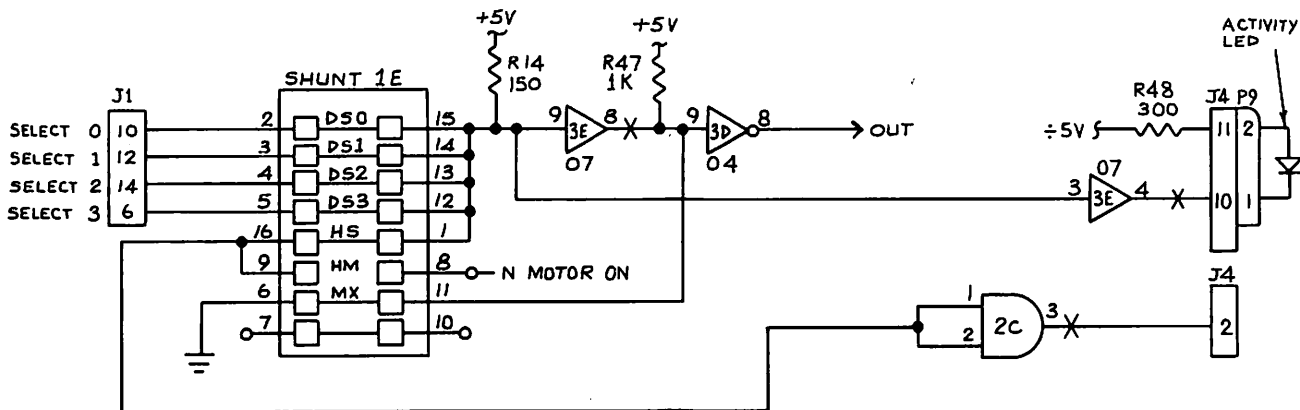

Figure 3-3
The select lines (see Figure 3-3) provide a means of selecting and deselecting a disk drive. These four (4) lines (NDS0-NDS3 standard) select one (1) of the four (4) disk drives attached to the controller. When the signal logic level is true (low), the disk drive electronics are activated and the disk drive is conditioned to respond to Step or Read/Write commands. When the logic level is false (high), the input control lines and output status lines are disabled.